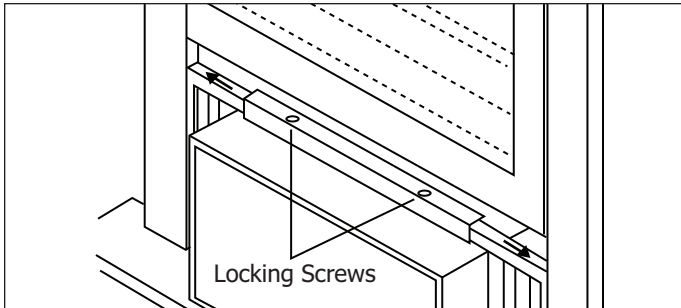

Figure 2-26.
2. Extend panels to completely fill window opening. Tighten locking screws on top. (See Figure 2-26)